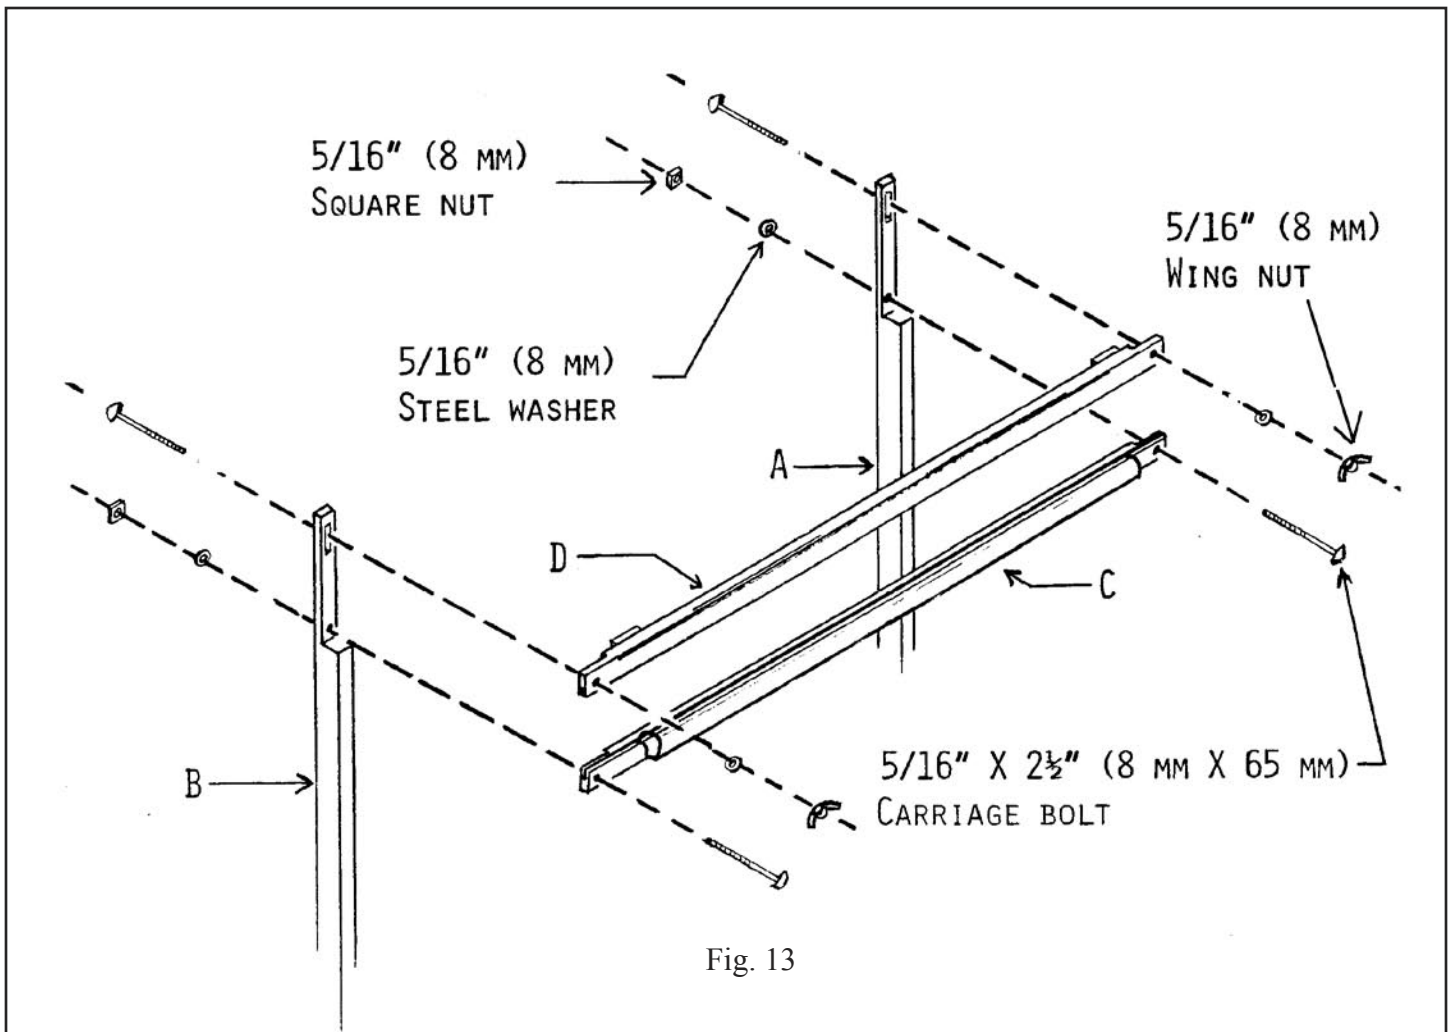

Fig. 13
Using two (2) 5/16" x 2½" (8 mm x 65 mm) carriage bolts, two 5/16" (8 mm) steel washers, and two square nuts, affix batten sley C to the lower holes of swords A and B. (Fig. 13)